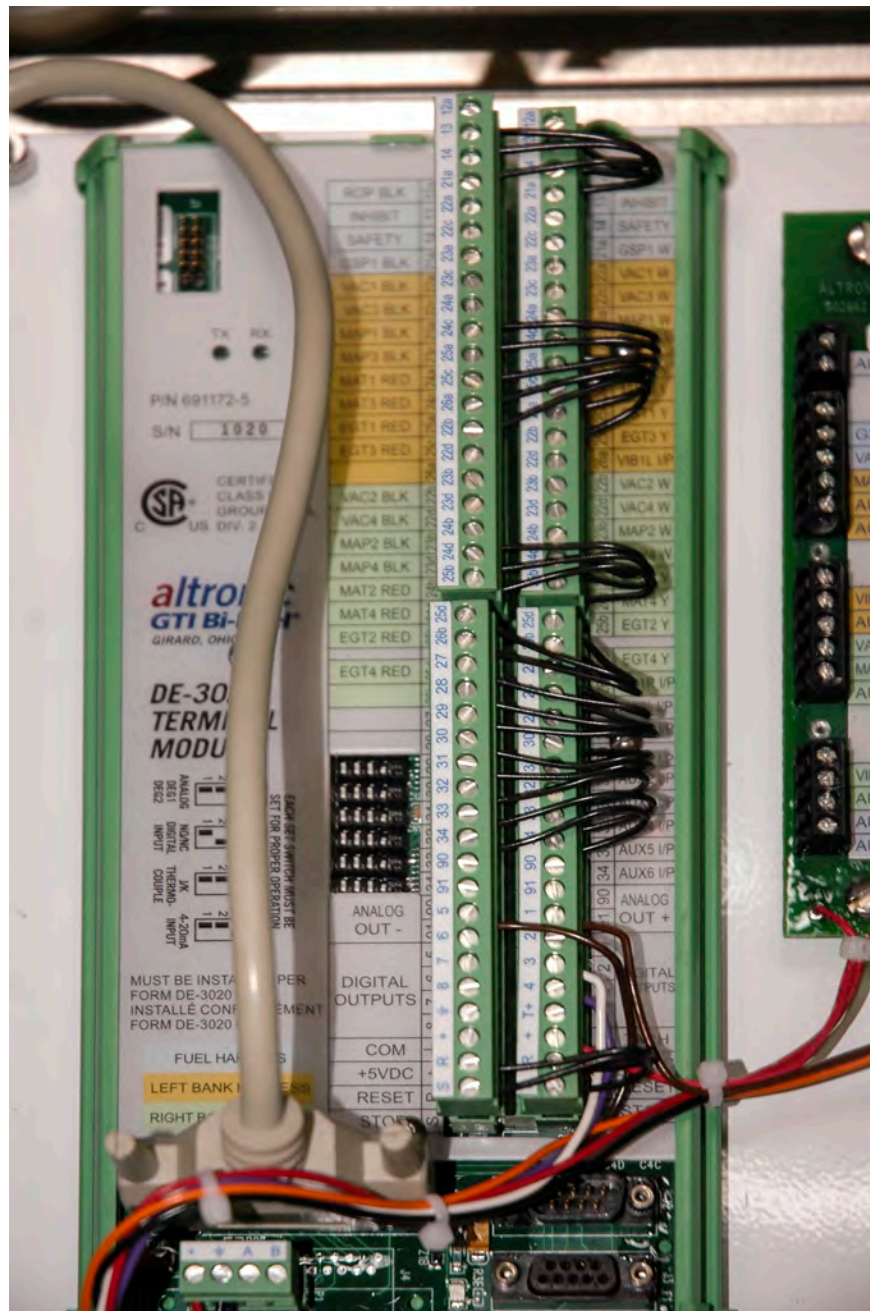

Figure 7
11. Secure the Lexan label with the 4 round head screws removed earlier (figure7).
12. Reconnect the DB25 connector (figure7).
13. Reconnect the 4 terminal connectors (figure 7)